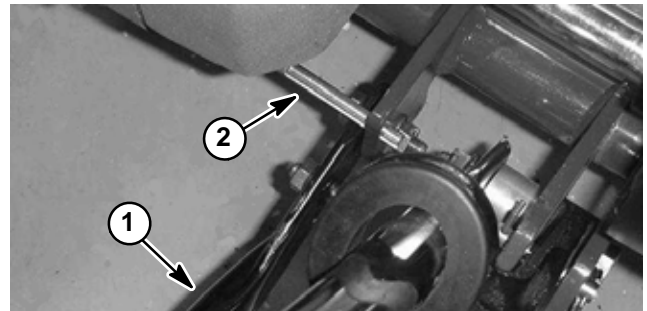

Figure 1
2. Lower kickstand. Insert a 1/4" diameter pin (or equivalent) into frame hole above kickstand mounting bolt to lock kickstand in place (Fig. 1).